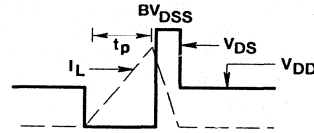

Figure 15. Unclamped Energy Waveforms
4. $V_{DD} = 50\text{V}$, starting $T_J = +25^\circ\text{C}$, $L = 2.7\text{mH}$, $R_{GS} = 25\Omega$, $I_{PEAK} = 9\text{A}$. See Figure 15.